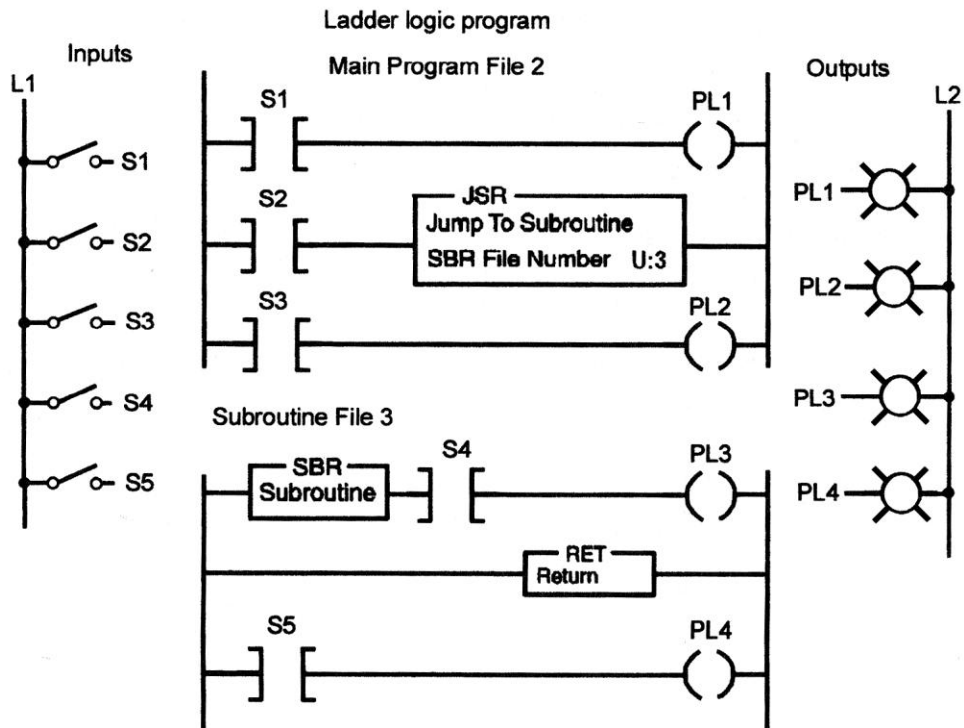

Figure 9-13 Program for assignment 5.
5) Construct a simulated program for the jump-to-subroutine program in Figure 9-13. After constructing your program on paper, enter it into the PLC. Demonstrate how the jump-to-subroutine operation is executed.